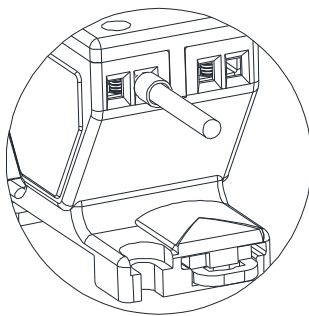

Figure 1
- * The wiring should be clamped by the standard compression ferrule (See figure 1). If two wires have to be connected the cross-section area of the wires should be the same.(see figure 2)